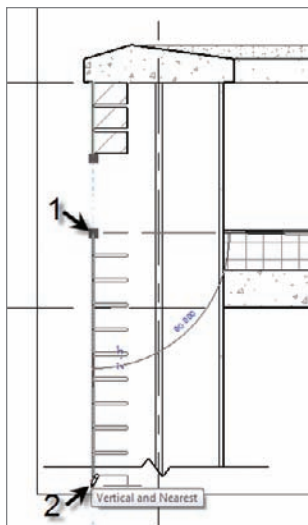

FIGURE 12.13 Picking two points
2. Pick point 1, as shown in Figure 12.13.
4. Pick point 2, as shown in Figure 12.13. Make sure you pick the second point well past the break line, or the brick will stop short.